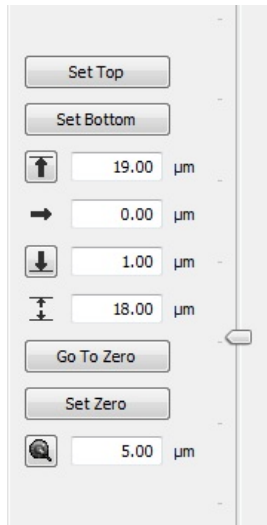

Fig 8: Focus control
2. click on the **ASI focus control** button (highlighted in Fig 7) to open control window (Fig 8); slider arrow on the right can be used to control stage Z position
4. find the top/bottom of the sample, **using the ASI controller** (either turn knob on joystick box, Fig 5-10, or use slider on the right in control window, Fig 8), then click **<Set Top>/<Set Bottom>** for **absolute stack definition**